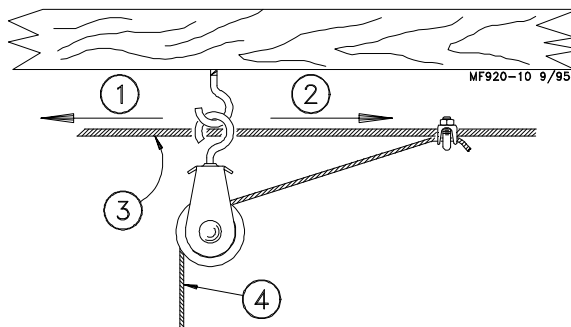
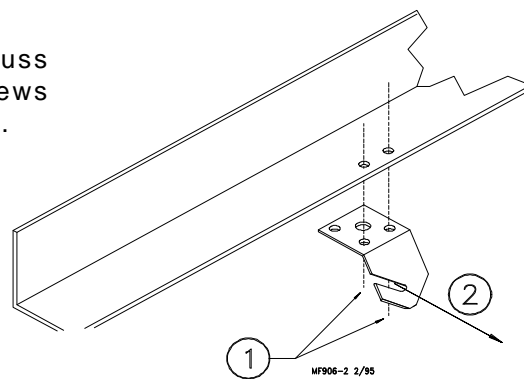

Figure 10. Screw Hook Installation (Side View)
Figure 11. Ceiling Hook Installation
Screw Hooks or Ceiling Hooks may be used to suspend the feeder line. Refer to the appropriate instruction, below. Screw Hook installation is shown in Figure 10. Ceiling Hooks installation is shown in Figures 11 through 16.
Screw the hook into the truss the full length of the threads to prevent bending. The openings of the screw hooks must be pointed away from the direction of travel when the Power Winch raises the feeder line. See Figure 10.
The ceiling hook may be used in a variety of installations. Depending on your individual situation, install the Ceiling Hooks as shown in Figure 11 - 14.
2. Thread the end of the 3/32" or 1/8" cable through the pulley toward the winch. Clamp this end to the 3/16" winch cable about 6" (150 mm) from the pulley, using a 3/16 inch cable clamp. See Figure 10.